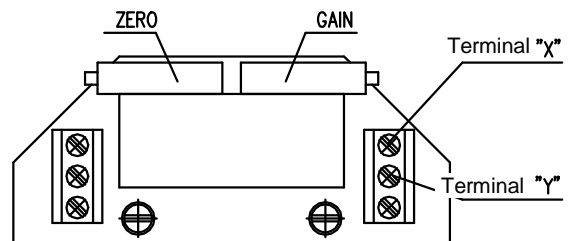

Fig. 8
3.4.2 EPV – 3-wire version (Fig. 8, 8a)
- Adjust the resistive transmitter according to the previous chapter. The resistance is to be metered on the terminals X-Y, resp. 0%-100% (Fig. 8, 8a). The used transmitter resistance is 2000 Ω resp. 100 Ω .